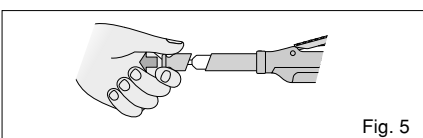

Fig. 5
- a. Remove the cartridge cover. (Fig. 5)